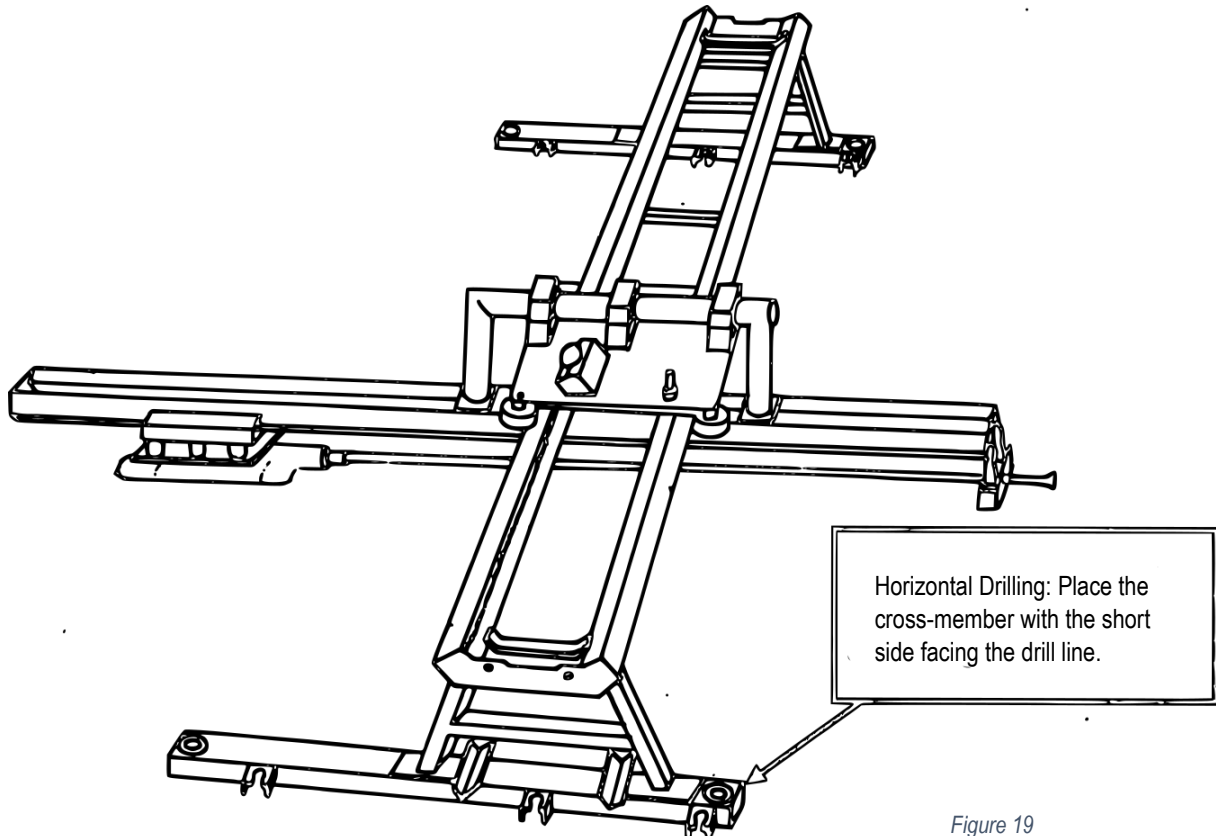

Figure 19
4. Fit the column to the column support pipe, using the attachments (Figure 19).